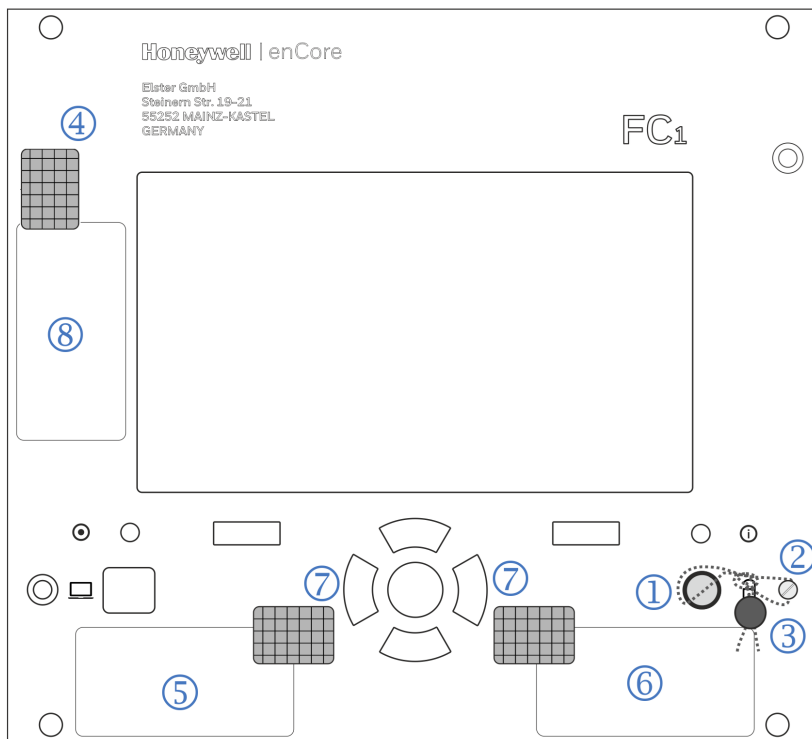
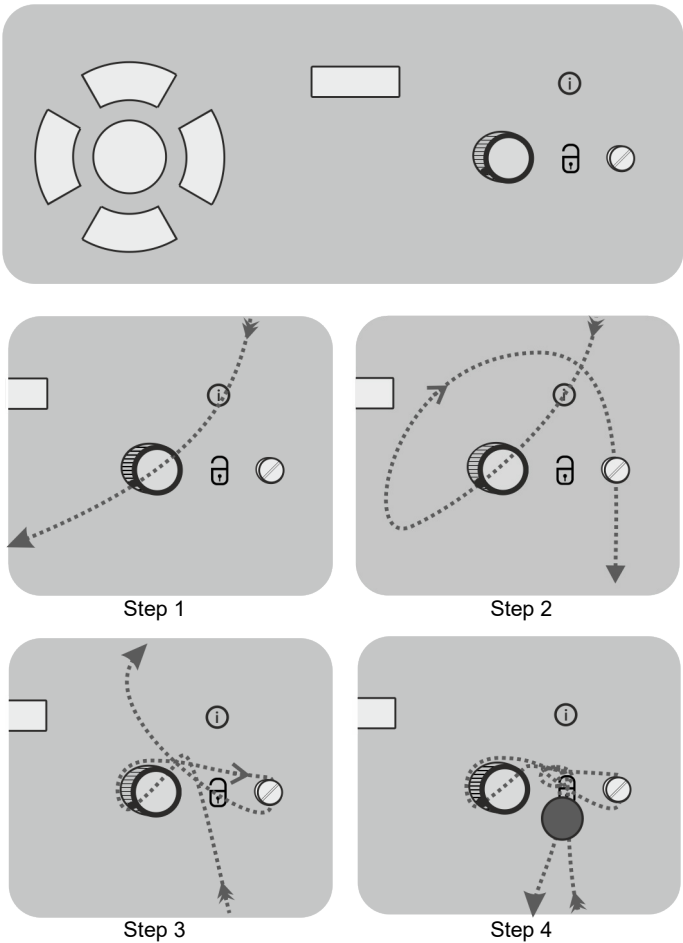

Figure 8: FC1 device sealing, front view (1/3 housing width),
Figure 9: How to seal the security switch
- ① Security switch (sealable)
- ② Seal screw
- ③ Wire and seal (detailed description cf. Figure 9)
- ④ Securing mark (adhesive label), securing a housing screw and type plate part 3, if applicable
- ⑤ Location of type plate part 1
- ⑥ Location of type plate part 2
- ⑦ Securing marks (adhesive labels), securing the type plate parts 1 and 2
- ⑧ Location of type plate part 3 (for devices placed on the market from the date of issue of the EU-type examination certificate T10434 revision 11 onwards)
Close the security switch ① by turning it clockwise until it stops. Secure the closed security switch with sealing wire and seal as shown in Figure 9. Take care to pull the sealing wire tight and to place the seal as close as possible to the knot, so that there is no room to turn the security switch afterwards.
The front sealing of a device with a wide housing (1/2 housing width) is the same (cf. Figure 8): Wire and seal for securing the security switch ① ② ③ (acc. to Figure 9), adhesive label for securing the housing screw in the top left corner of the front ④ and adhesive label for securing the type plates ⑦.